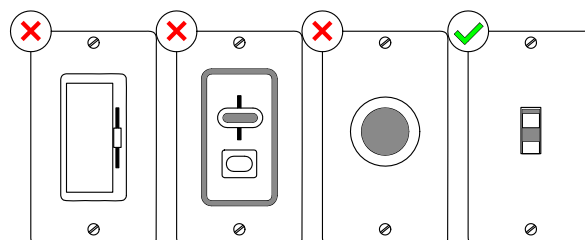

Figure 1
- ☐ 1. Align the canopy holes with the screw holes of the hanger. Install using the 2 screws previously removed and Tighten in the 4 screws using the Short Screwdriver to fix the canopy, taking care not to pinch the wires. Tighten screws. (Figure 1)
- ☐ 1. Pull out the hairpin. (Figure 1)
1. **IMPORTANT:** Using a full range dimmer switch (not included) to control fan speed will damage the fan. To reduce the risk of fire or electrical shock, do not use a full range dimmer switch to control the fan speed. (Figure 1)